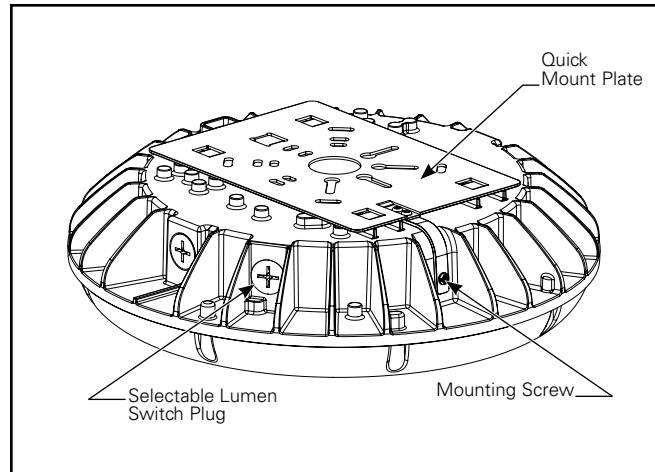

Figure 1.
1. Using a Phillips head screwdriver, remove the selectable lumen switch plug (Figure 1).
3. Using a Phillips head screwdriver, reinstall the selectable lumen switch plug that was removed in step 1 (Figure 1). Tighten to 10-13 in-lbs.
1. Remove and retain the mounting screw that fastens the quick mount plate to the housing (Figure 1). Be sure to keep this mounting screw as it will be needed later to complete the installation.
7. Secure installation by reinstalling the mounting screw removed in step 1 (Figure 1). Tighten to 5 in-lbs.